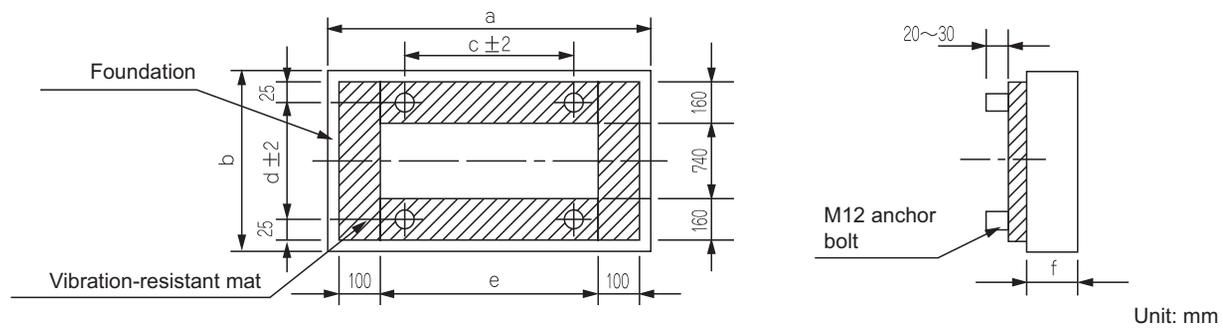

Fig. 7
- When installing the outdoor unit, be sure to use the specified size of anchor bolts (shown in Fig. 7) and anchor the unit security. Failure to do so may result in the outdoor unit tipping over, causing gas leakage and personal injury.